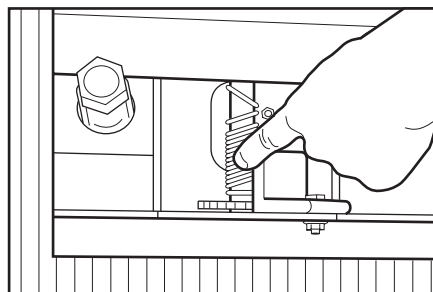

Fig. 4
4. Install tire lugwrench and handle through access hole in stepwell, turn counterclockwise and reach through floor access to release the ratchet angle (Fig.4).